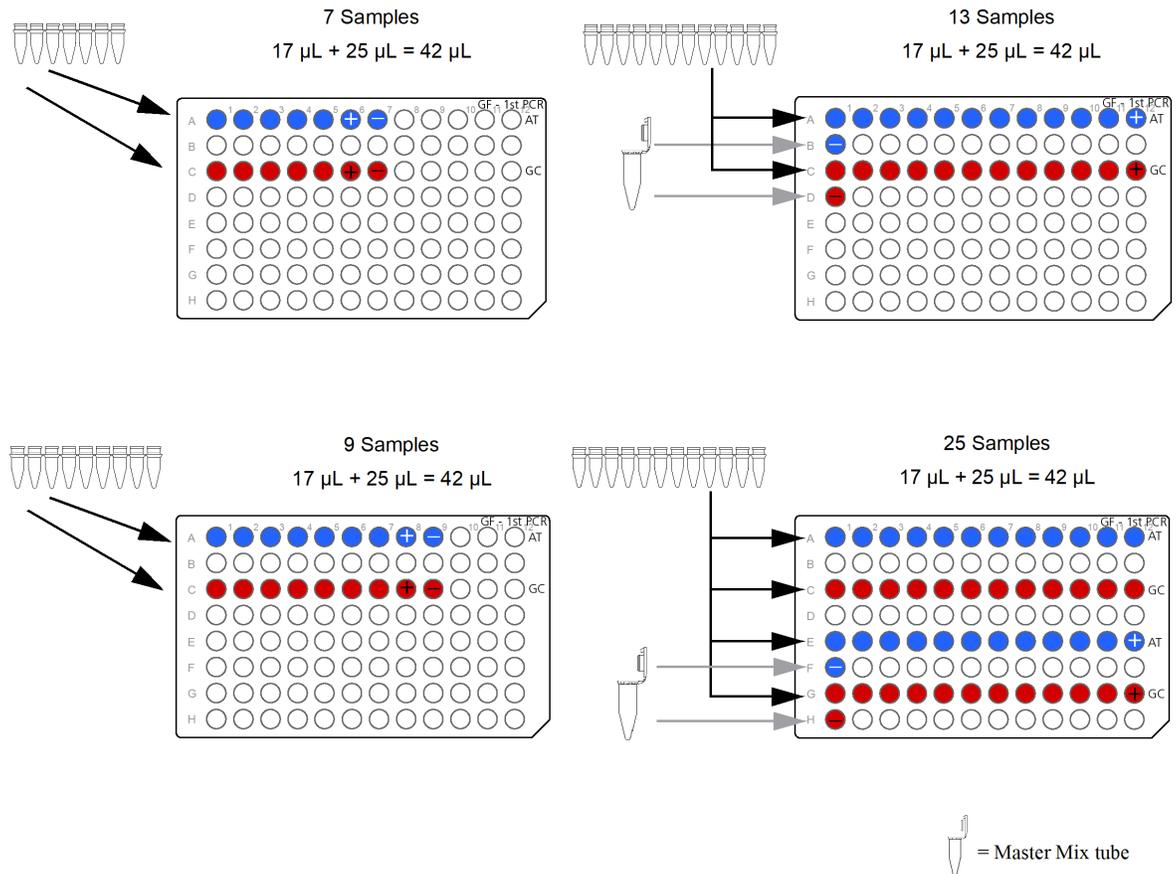

Figure 14 Adding Cleavage Master Mix to the 1st PCR Plate.
9. Use a multichannel P200 pipette to add 25.0 µL of the Cleavage Master Mix to each sample. (Figure 14.)
**Note:** For the 13- or 25-sample protocol, use a single channel pipette to add 25.0 µL of the Cleavage Master Mix from the “CM” microcentrifuge tube to the Negative Control wells. Pipet up and down 3 times to rinse the tip. (Figure 14.)